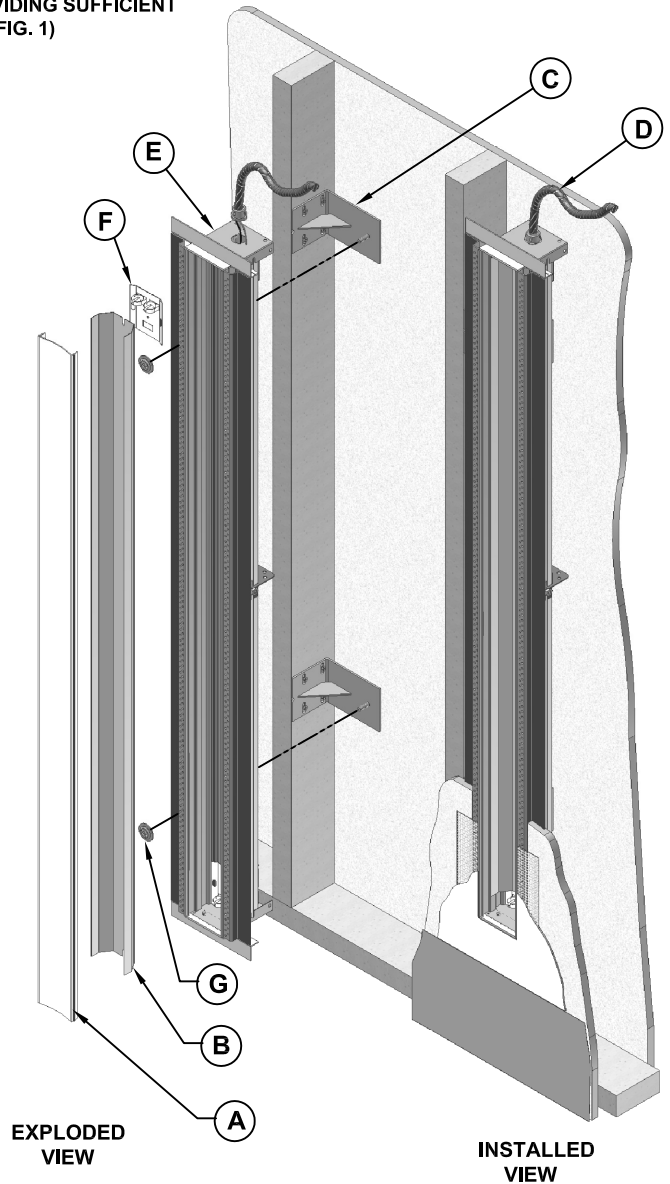

FIG. 1
ROUTE FLEXIBLE CONDUIT (D) TO TOP OF FIXTURE'S INSTALLED POSITION, PROVIDING SUFFICIENT LENGTH TO MAKE CONNECTION TO FIXTURE OUTSIDE OF FINISHED WALL. (REF. FIG. 1)